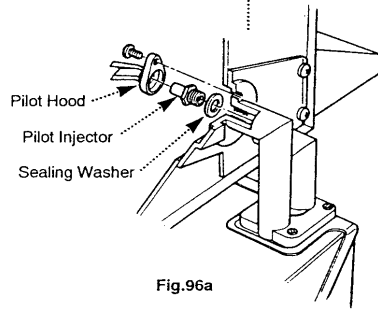

Fig.96a
4. Release the screw securing the pilot hood and remove (Fig. 96a).
5. Carefully remove the pilot injector (Fig. 96a). Examine and clean it as necessary. Do not use a wire or pin to clean the injector orifice.
6. Examine the sealing washer (Fig. 96a) and replace if it is damaged in any way. Reassemble in reverse order.